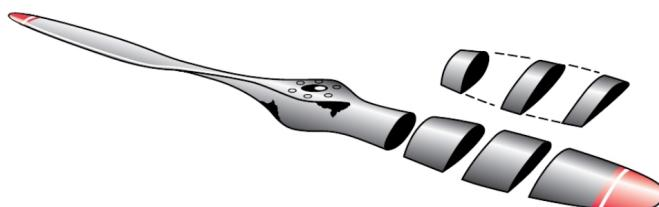

Figure 7: The cross sections of the propeller.
**12. Propeller:** It converts rotational power into thrust, propelling the aircraft through the air. There are two types of propellers: **fixed-pitch** and **variable-pitch**. Figure 7 shows a general view of the propeller, where the section near the center uses a low-speed airfoil, and the section near the tip uses a high-speed airfoil due to the higher speed.